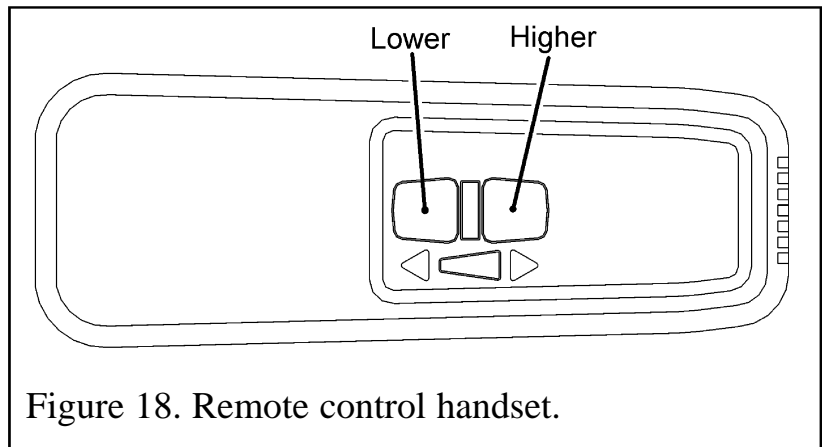

Figure 18. Remote control handset.
1. Keep the pilot burner at the "main burner on" position. Check the full range of main burner heat settings using the remote control handset. In order to vary the flame effect between High and Low positions, press, and keep depressed, either the High button, or the Low button as appropriate (See figure 18).